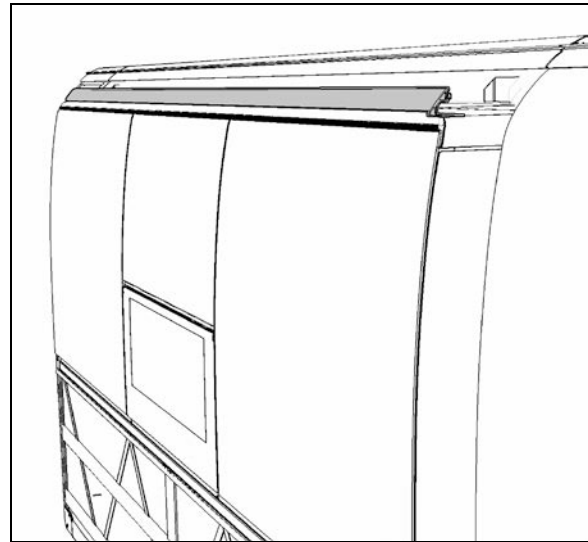

FIGURE 36 TOP EXTRUSION REMOVAL
3. Using a knife, cut the sealant between the Top extrusion and the roof. (Figure 36) Unscrew and remove the central exterior extrusion screws and the two end extrusion screws.